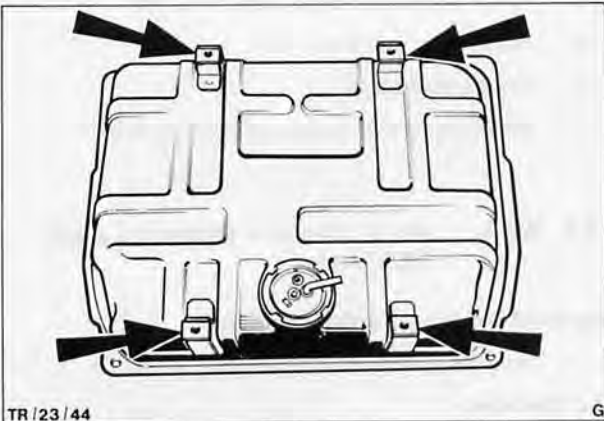

Fig. 73 Tank rubber insulator pads
- Ensure four rubber insulator pads are correctly stuck to tank in the positions shown in Fig. 73.